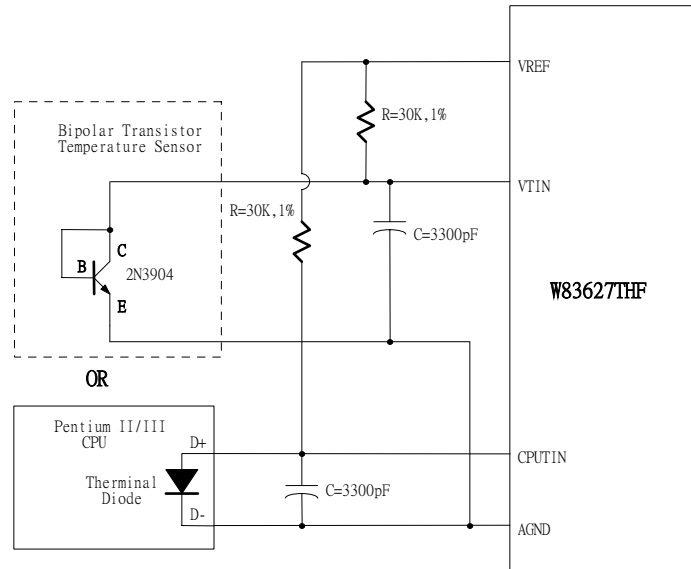

Figure 5-3
The W83627THF can alternate the thermistor to Pentium II™/Pentium III™ thermal diode interface or transistor 2N3904 and the circuit connection is shown as Figure 5-3. The pin of Pentium II™/Pentium III™ D- is connected to AGND and the pin D+ is connected to temperature sensor pin in the W83627THF. The resistor R = 30K ohms should be connected to VREF to supply the diode bias current and the bypass capacitor C = 3300pF should be added to filter the high frequency noise. The transistor 2N3904 should be connected to a form with a diode, that is, the Base (B) and Collector (C) in the 2N3904 should be tied together to act as a thermal diode.